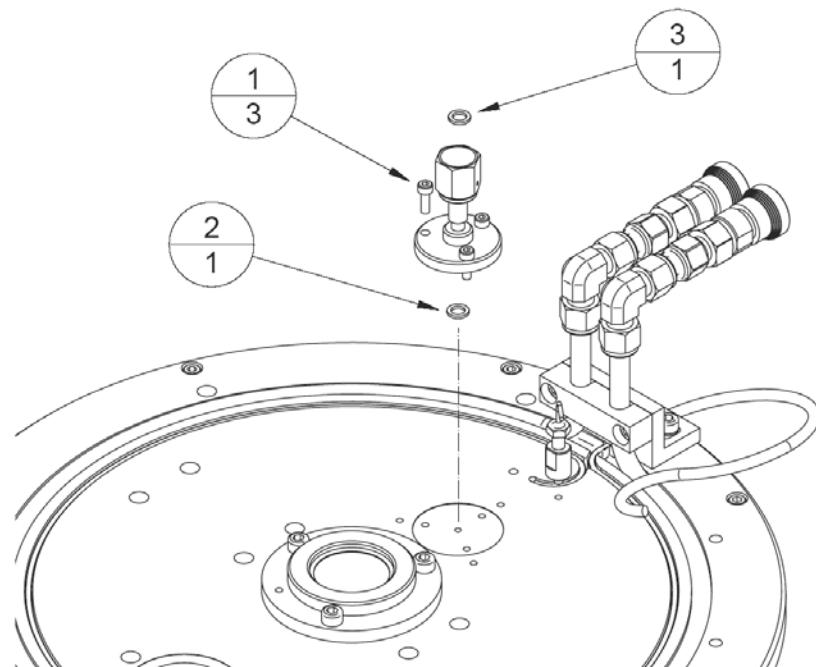

Figure 4.10 Gas Inlet Assembly
1. Refer to Figure 4.10.
2. Remove three M4 x 10 screws (1) and viewport heat shield (2).
3. Remove three M6 x 16 screws (3) and viewport flange (4).
4. Remove and discard gasket (5).
5. Remove and discard viewport glass (6).
6. Remove O ring (7) and carrier (8).
3. Remove three M4 x 12 screws (1).
4. Remove and discard O ring (2) then clean the O ring groove with IPA.
5. Fit new O ring to groove then reassemble the gas inlet kit using new VCR gasket (3).